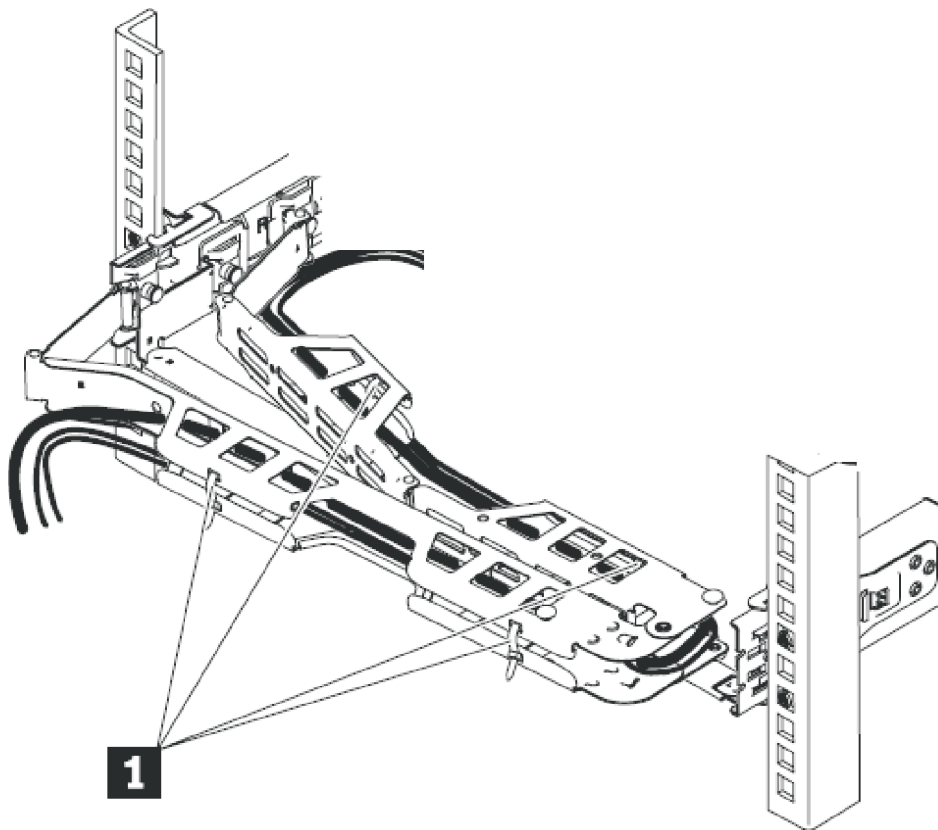

Figure 29. Connecting and routing the cables
- a. Route the data cables and power cords on the cable-management arm, as shown by **1** in Figure 29 on page 29.